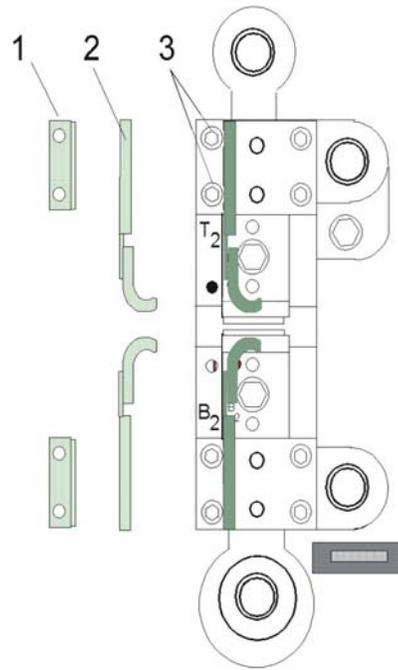

Figure 14 Ejector Bracket installation
Two sets of two-part ejector brackets are factory mounted on die Station 2 (Figure 14). The ejector bracket base (Item 1) mounts to the Station 2 die block assembly with two screws (Item 3). The ejector bracket hook (Item 2) slides onto the ejector bracket base.
- Loosen screws (Figure 14, Item 3).